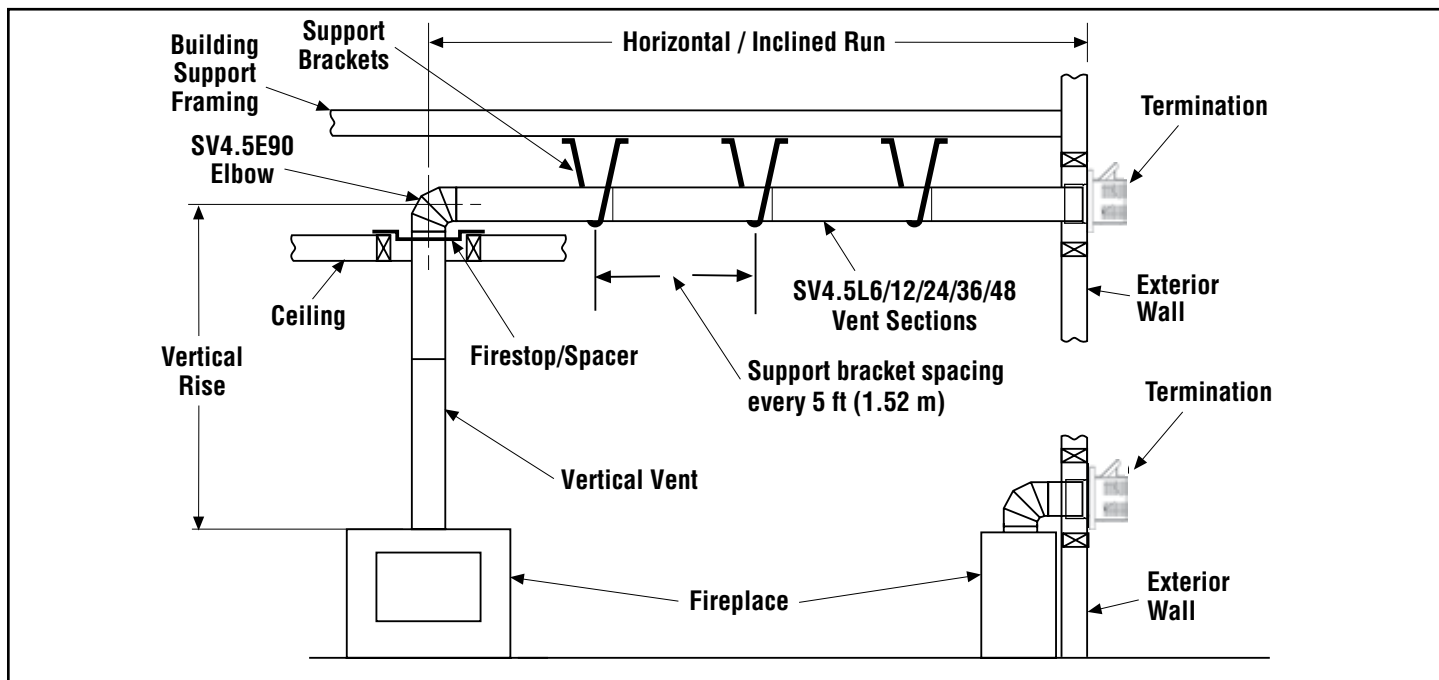

Figure 8 - Typical Horizontal Vent Installation
- 2. Support fireplace vent outlet with field provided support straps (Plumber's tape)**—Attach the straps to the vent pipe and secure to the framing members with nails or screws (*Figure 8*).
1. **Continue installation of horizontal/inclined sections**—Continue with the installation of the straight vent sections in horizontal/inclined run. Install support straps every 5 ft. (1.52 m) along horizontal/inclined run using conventional plumber's tape (*Figure 8, Page 14*). Maintain the horizontal/inclined run in a straight (no dips), slightly elevated plane. The recommended incline is approximately 1/4" per 1 ft (20 mm per 1 m) horizontal, in a direction away from the fireplace. Smaller rise per foot run ratios are acceptable all the way to at or near level. Use a carpenter's level to measure from a constant surface and adjust the support straps as necessary. Maintain the required clearances to combustibles (*Page 9*).